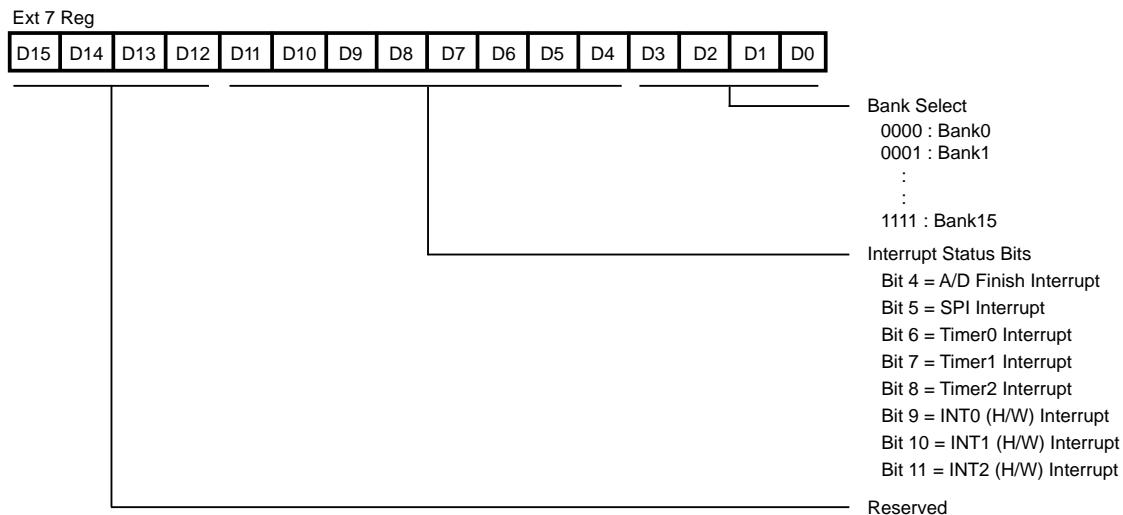

Figure 8. EXT7 Register Bit Assignment
**SR** is the status register (Figure 8) which contains the ALU status and certain control bits (Table 5).